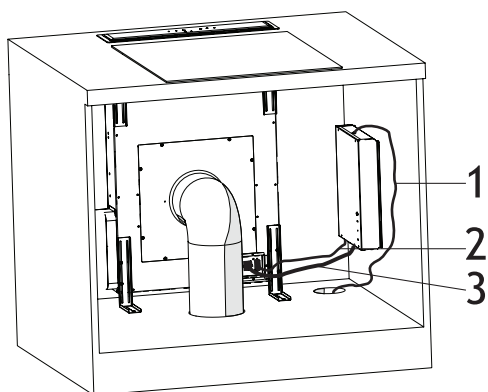

Fig. 26
14. ➔ Connect the appliance cables (Fig. 26).